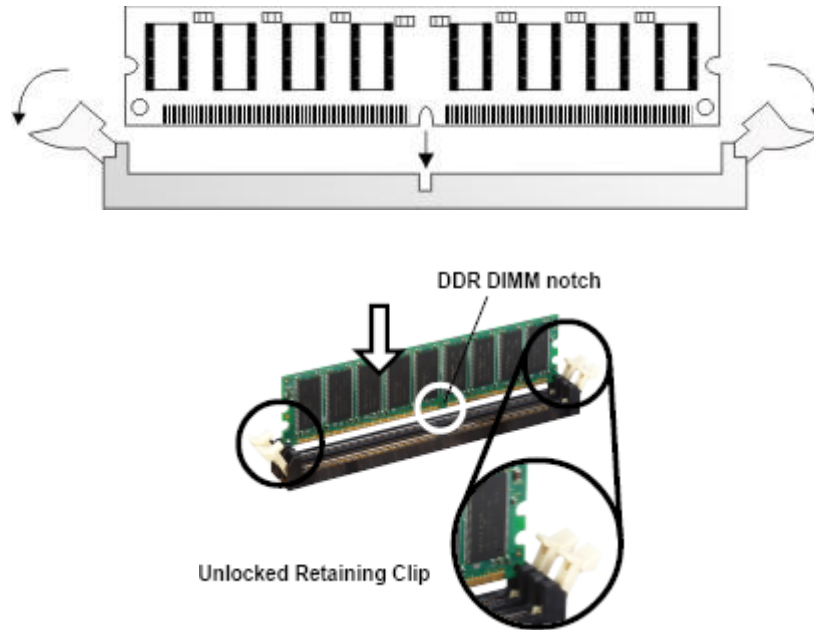

Figure 4-4: Installing the DIMM Module
- Step 1:** Make sure the two handles of the DIMM socket are in the "open" position, leaning outward (**Figure 4-4**).